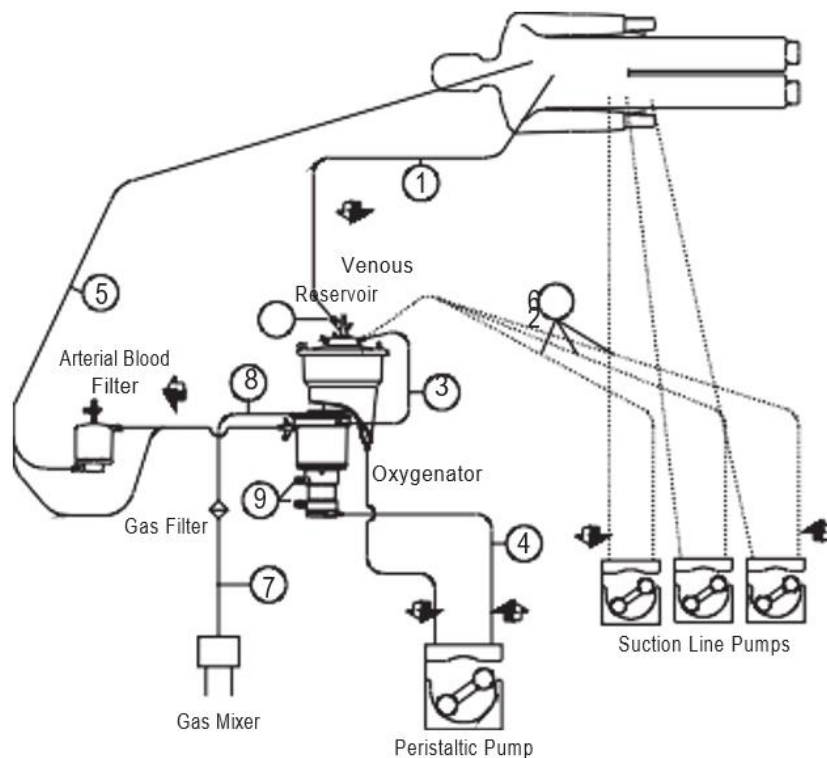

Figure 2 - Scheme of the CPB circuit assembling
8.2 Installation of Blood Lines (Figure 2)
- a. Connect the cava line (venous) (1) of the Tubing set to the venous inlet connector (2) of the Blood Venous Reservoir and clamp it.
- f. Connect the suction lines (6) to inlet connectors for suction of the Blood Venous Reservoir.
8.3 Installation of Gas and Water Lines (Figure 2)
- a. Connect the outlet of the Gas Mixer/Flowmeter (7) to the Gas Filter.